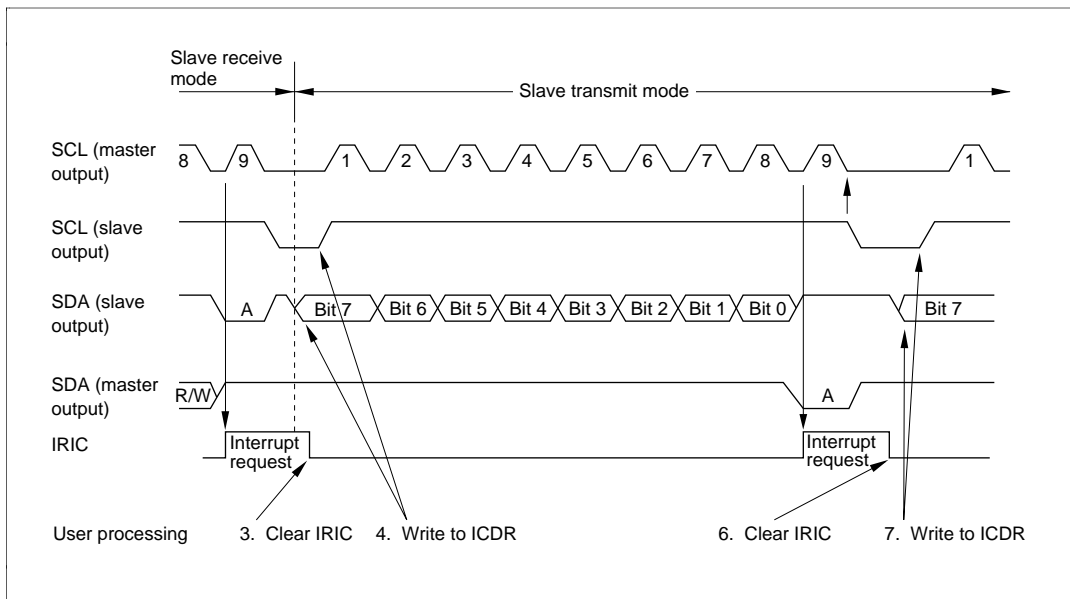

Figure 14-8 Timing in Slave Transmit Mode
4. Write data in ICDR. The slave device outputs the written data serially in step with the clock output by the master device, with the timing shown in figure 14-8.